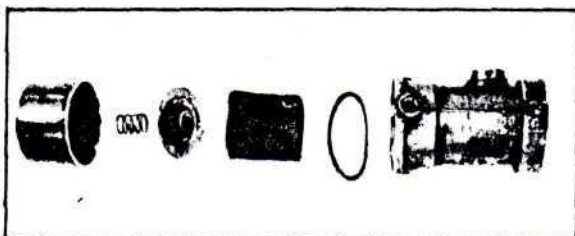

FIGURE 20
1. After inspection or cleaning of sediment bowl, always use a new bowl gasket (Figure 20).
2. Place spring inside sediment bowl (Figure 20).
3. Place filter base on top of spring as shown (Figure 20).
4. Place filter on top of filter base (Figure 20).
5. Place gasket on top of sediment bowl (Figure 20).